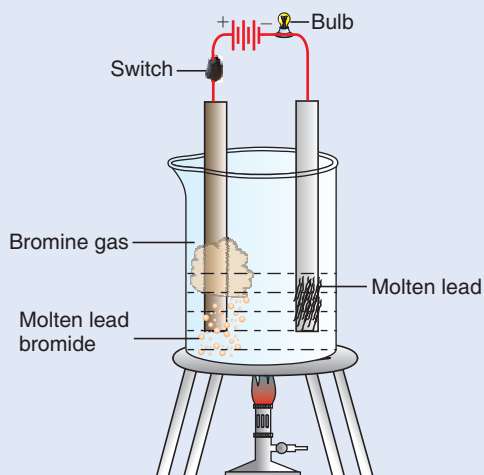

Figure 3.6 Electrolysis of Fused Lead Bromide.
1. Assemble the materials as shown in **Figure 3.6**.
2. Place small amount of lead bromide crystals in a beaker. Insert the two electrodes, as shown in **Figure 3.6**, until they are in contact with the lead bromide crystals. Then turn on the switch. Does the bulb glow?